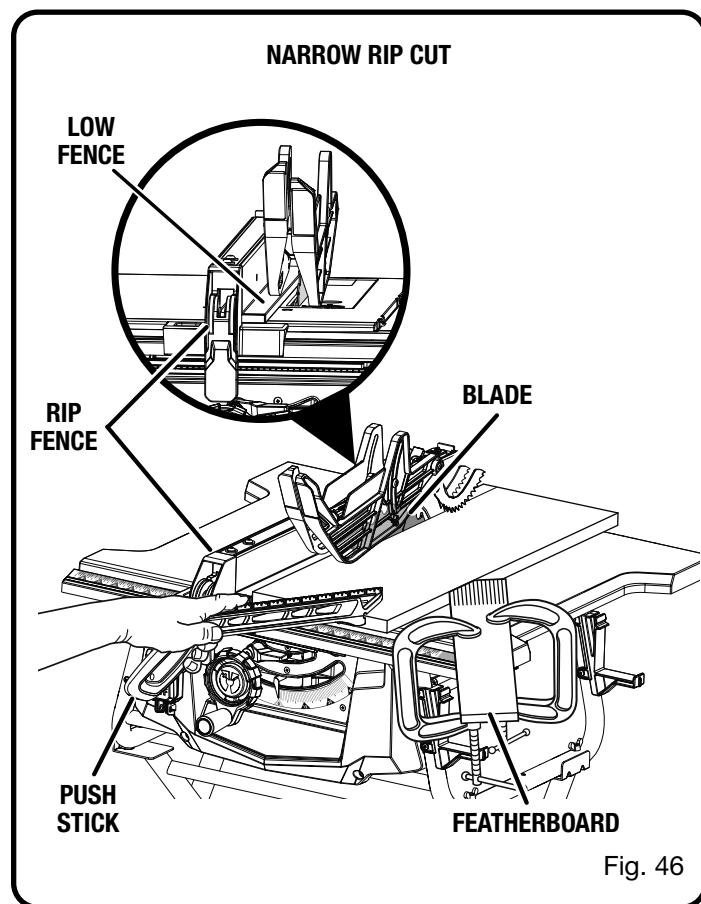

Fig. 46
**NOTE:** The cutting operation described above and illustrated in figure 46 will result in the saved piece being between the rip fence and the left side of the blade. Alternatively, you could place the rip fence and the wide portion of the workpiece on the left side of the blade, which would result in the saved piece being on the right.